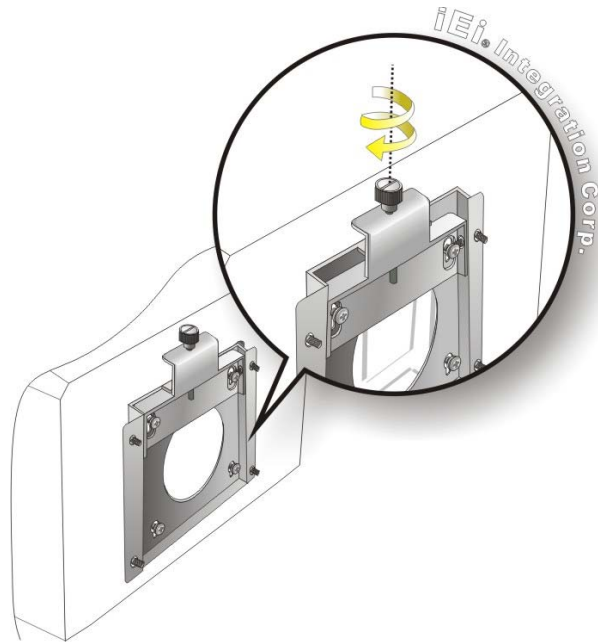

Figure 3-13: Secure the Panel PC
Step 9: Secure the panel PC by fastening the retention screw of the wall-mounting bracket (**Figure 3-13**).